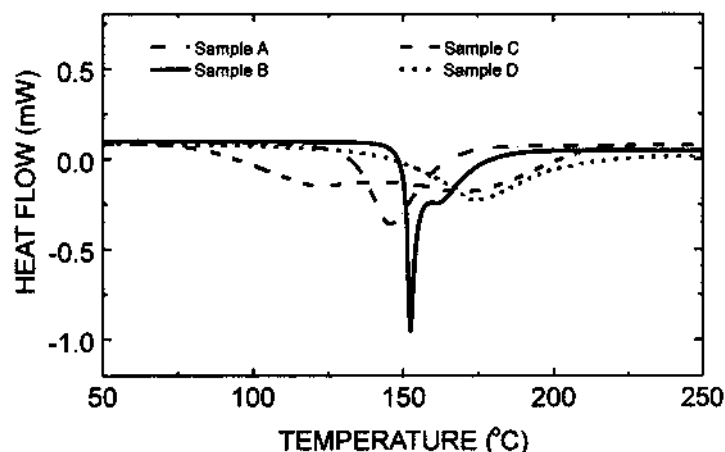

Figure 1: differential scanning calorimetry (DSC) traces of an epoxy-based underfill materials
- (c). Figure 1 shows differential scanning calorimetry (DSC) results of four epoxy underfills. Discuss the curing behavior that four epoxies in term of onset temperature and peak temperature.